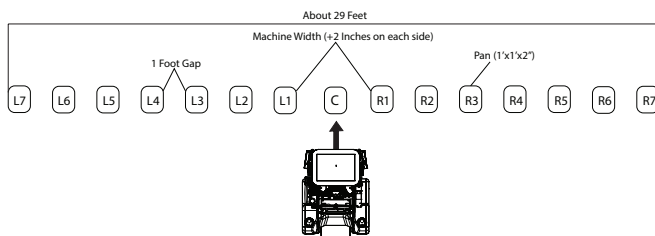

Figure 5-9. Large Granular Material
6. To determine the effective spread width for large granular items you will need 15 small pans (1ft², 1 or 2 inches high). Arrange 7 pans to the right (about 1 foot apart), 7 pans to the left (about 1 foot apart), and 1 pan in the center. Make sure to allow room for the machine to drive between the 7 left pans and 7 right pans with the center pan placed so it will miss the drive tires and go underneath the machine during the pass. See Figure 5-9